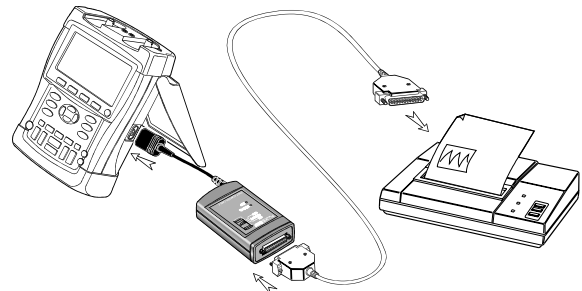

Figure 37. Connecting a Parallel Printer
- The Print Adapter Cable (PAC91, optional) to connect a parallel printer to the OPTICAL PORT of the test tool. (See Figure 37.)